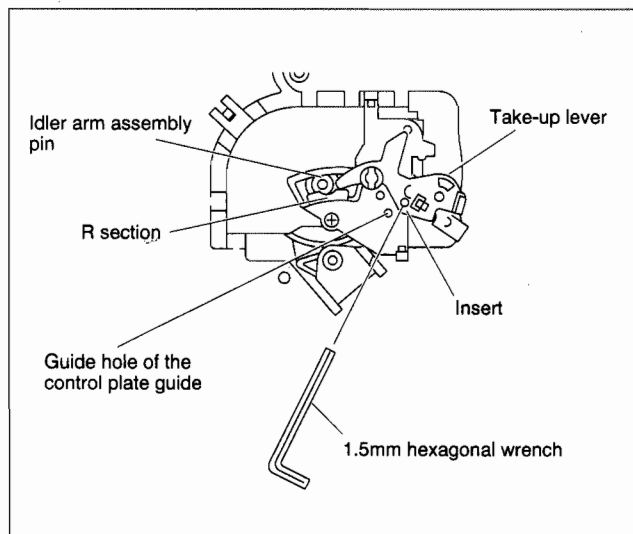
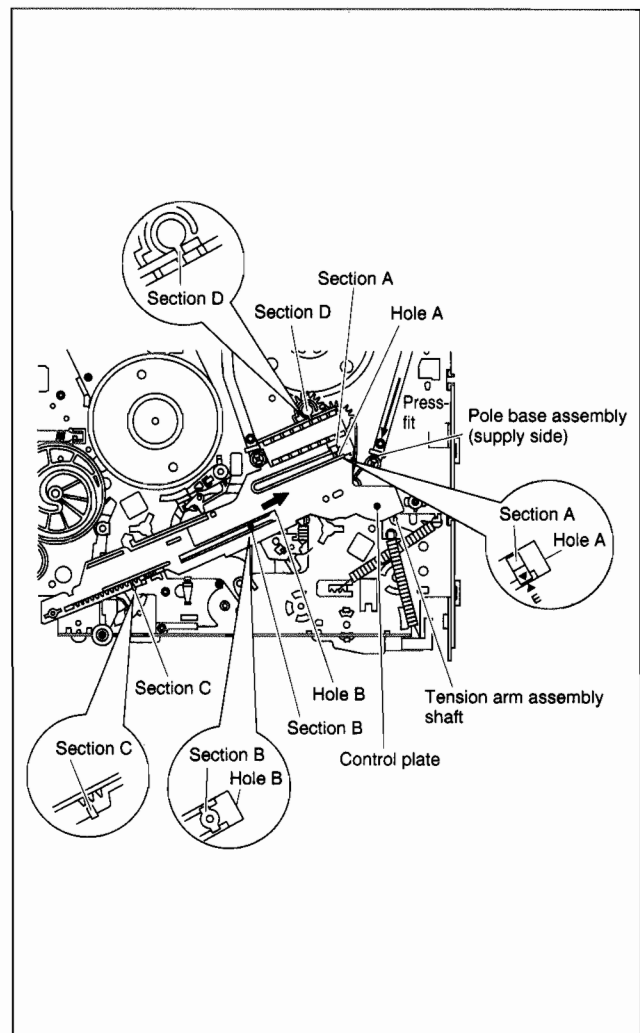

Fig. 2-2-30
Fig. 2-2-31
- (1) Adjust the position of the idler arm assembly pin as indicated in Fig.2-2-30 (to the left of centre of the R section).
- (2) Bring the guide hole of the take-up lever into alignment with the hole at the control plate guide and fix the position by inserting a 1.5 mm hexagonal wrench.
- (3) Install the control plate so that the section A of the loading arm gear shaft fits into the hole (A) of the control plate, the section B of the control plate guide into the hole (B), and the control plate comes under the section C of the rotary encoder guide and the section D of the loading arm gear shaft while press-fit the pole base assembly (supply side) as indicated by the arrow. It is important that the tension arm assembly shaft is positioned closer toward you than the control plate. (See Fig.2-2-31.)
- (4) Make sure that the mark E of the control plate is in alignment with the mark ▼ of the loading arm gear shaft. (See Fig.2-2-31.)
- (5) Pull off the hexagonal wrench for positioning.